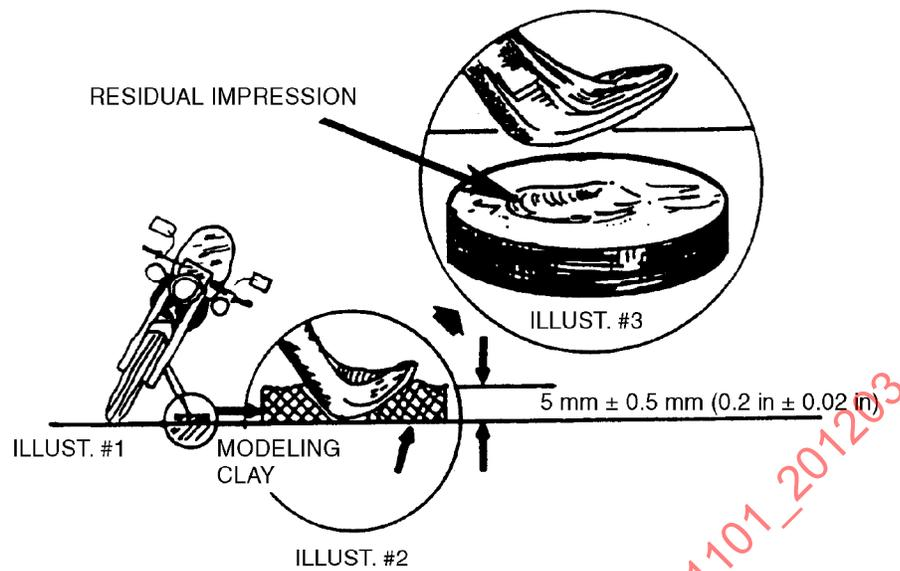

FIGURE 1—SIDE STAND FOOTPAD SURFACE CONTACT DETERMINATION
3.4 **Stand Contact Pad Area**—Area of stand contact pad as determined by the procedure described in 5.2.2 and illustrated in Figure 1.